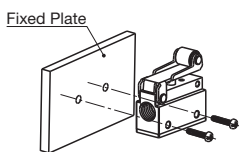

Fig.1
- Mechanical Valves K3M3B, K3M3R, K3M3V and K3M3L can be mounted side on. See Fig.1 for mounting.